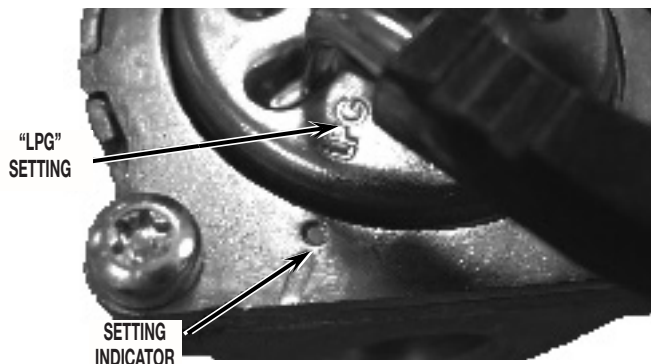

FIGURE 8
9. Rotate cover dial 25 degrees counterclockwise, lining up "LPG" marking with the indicator on the gas valve. See Figure 8.